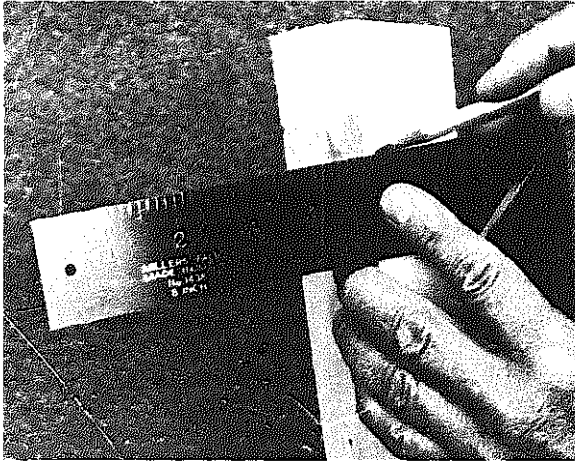

Fig. 4-26 Squaring a line across the edge of a board
3. To square a line across the edge of a board, place the handle of the square firmly against the face of the board. Mark along the edge of the blade. See figure 4-26.